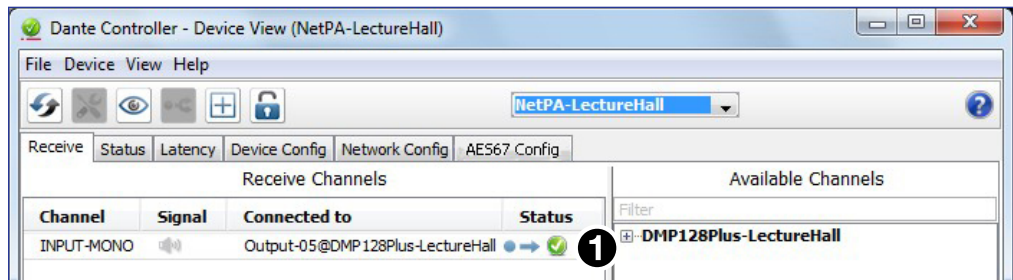

Figure 32. Device View Dialog Box
3. The Device View dialog box populates with the selected NetPA AT information (see figure 32, ❶).